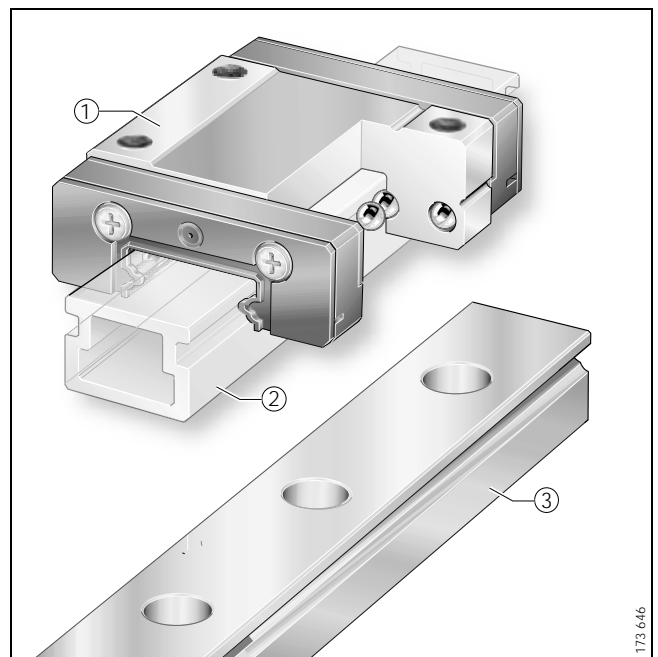

Figure 1 · Delivered condition – guideway, carriage and dummy guideway
The carriage ① and guideway ③ are not supplied pre-assembled (Figure 1).